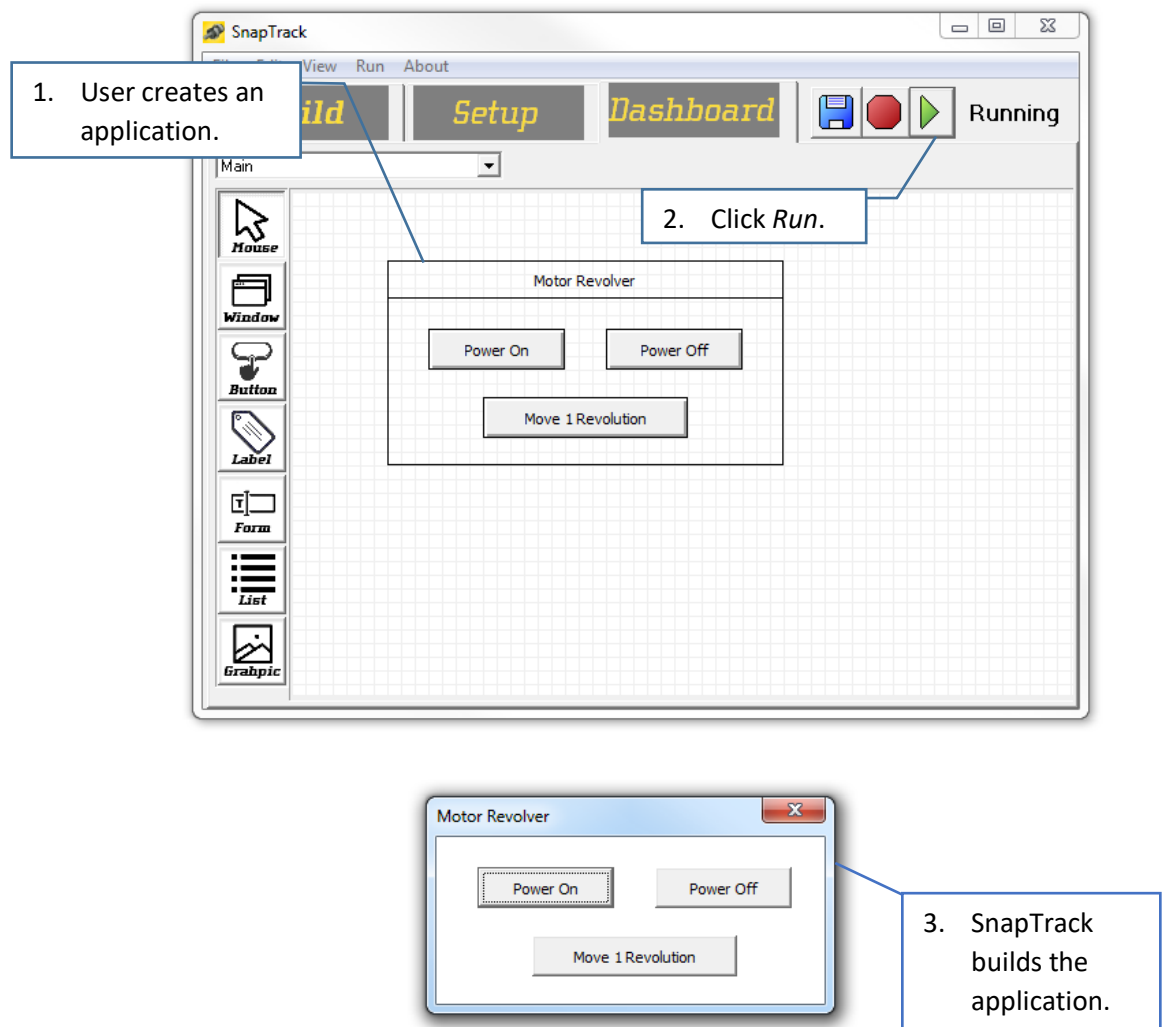

Figure 2.1 A user created application, and final output.
Here, users can create buttons, labels, and other items to use for a user-created application. Applications are first sketched on the *Dashboard* screen. SnapTrack then uses this sketch to create the user's application. *Figure 2.1* shows an example of a sketch, and its resultant application. The application features (3) buttons.